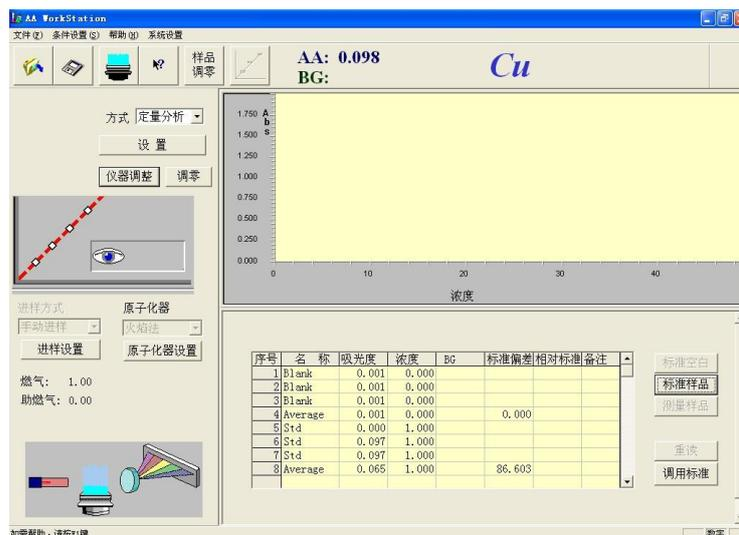

Figure 5-14
11. Spray and suck standard sample 1 blank again. Press "Standard sample", and the screen will be shown as that in Figure 5-14.